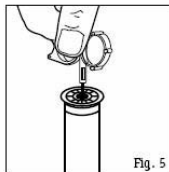

Fig. 5
1. Insert the hex end of the Hunter wrench into the stainless steel hex screw and turn the screw counterclockwise to increase the arc. (Fig. 5)